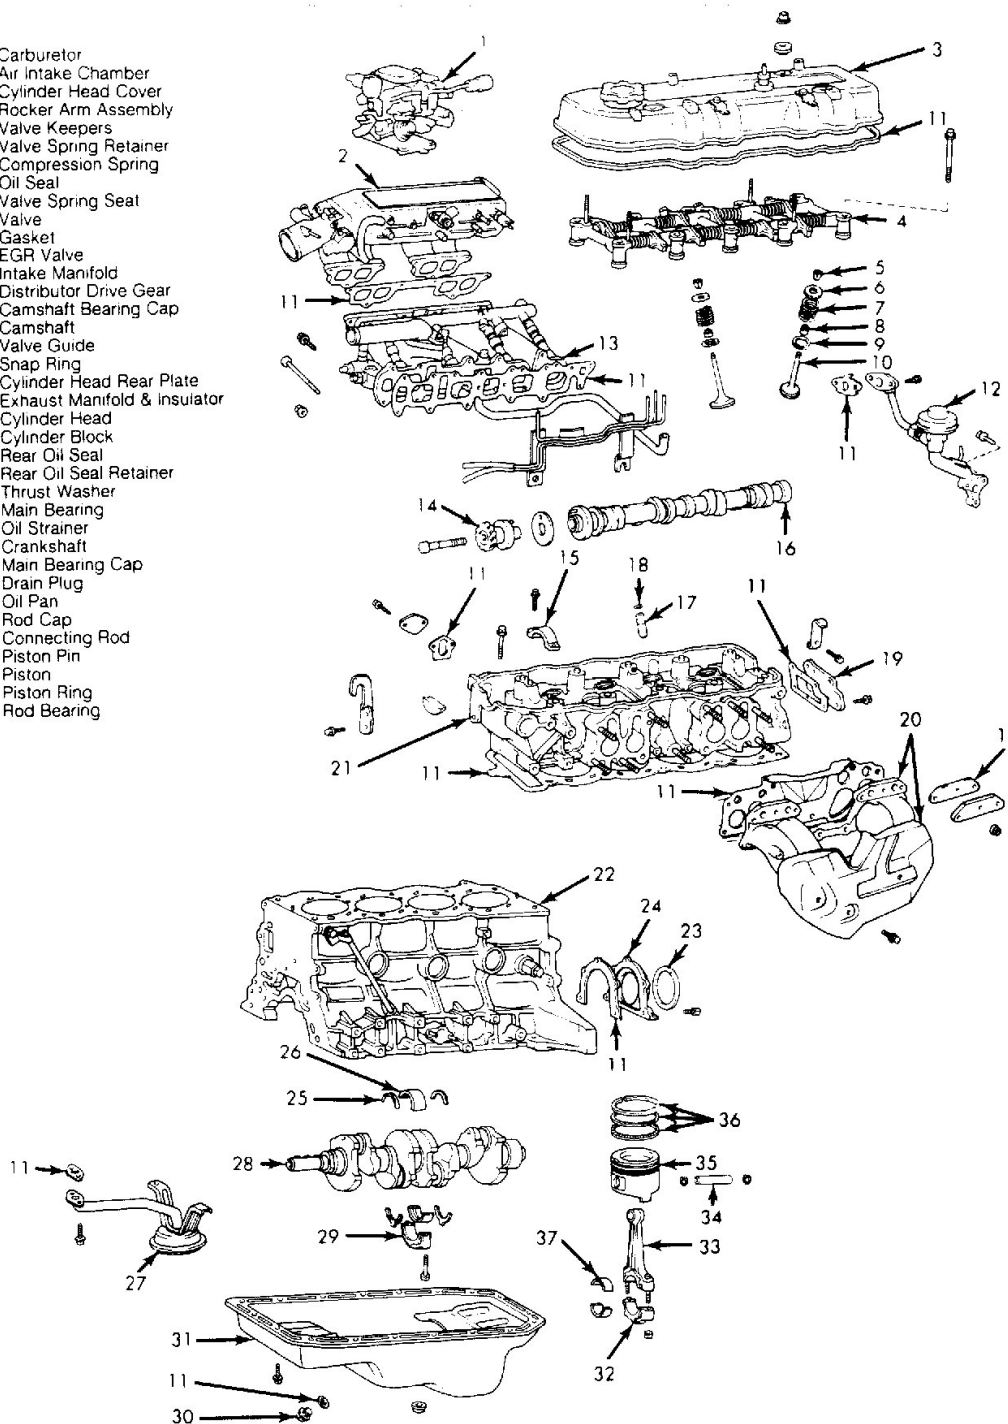

Fig. 2: Exploded View of 22R-E Engine
3. Remove power steering pump and set aside (if equipped). On fuel injected vehicles, remove EGR modulator with bracket and air intake chamber with throttle body. See **Fig. 2** . Disconnect and label all fuel injection wiring and linkages for reassembly reference.